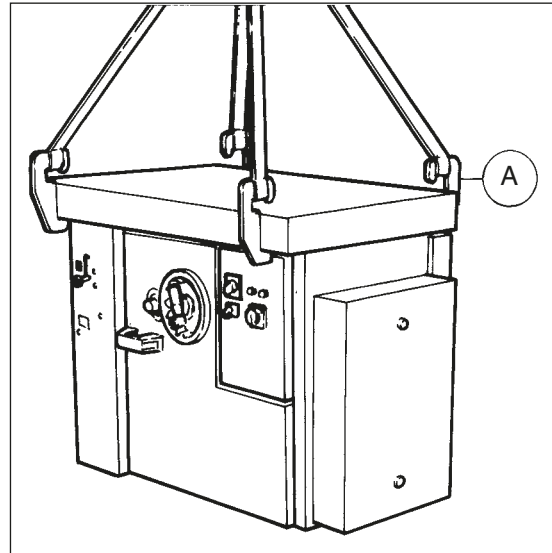

Fig.2
You can also use 4 hoisting hooks (A), as shown on fig.2. Then the machine can be lifted with a fork-lift truck, but severe shocks must be avoided.